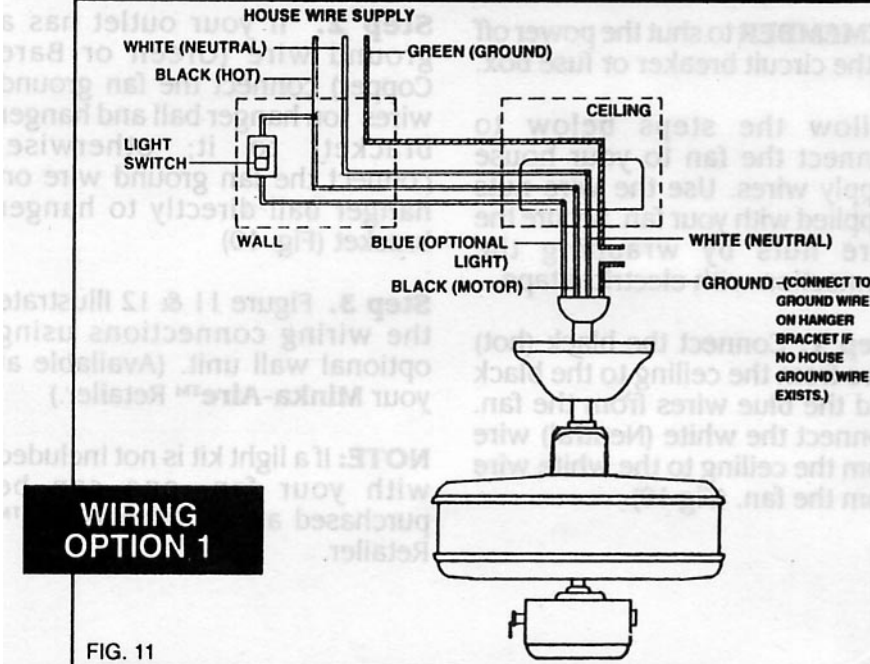

FIG. 11
**Step 3.** Figure 11 & 12 illustrate the wiring connections using optional wall unit. (Available at your **Minka-Aire™** Retailer.)